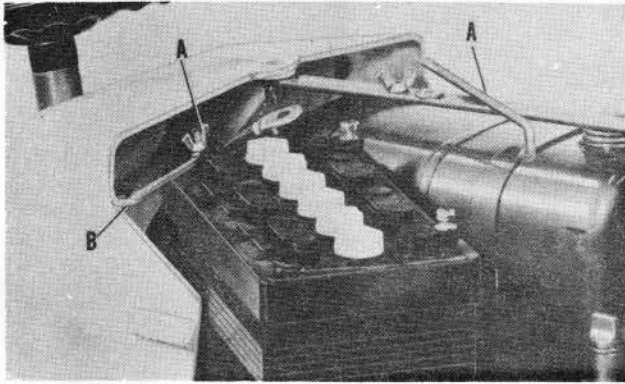

FIG. 2
1. Remove carton from around tractor. You have an electric start tractor, remove battery from crate bottom and prepare for operation as given in step one under Fig. 2. This will require about  $2\frac{1}{2}$  to 3 hours of time.
1. Fill battery with electrolyte and charge battery as outlined in instructions in battery container. CAUTION: After filling cells, let battery stand for thirty minutes. Then charge battery at a rate not exceeding three (3) amperes for about  $2\frac{1}{2}$  hours.
2. Lift cowl and assemble clamp (B) to one of two battery bolts (A). Flat washer and wing nut above clamp. Hook the bolt clamp assembly into rear of battery support and turn clamp to side as shown. Slide battery into position with terminals to center of tractor, as shown in Fig. 2.